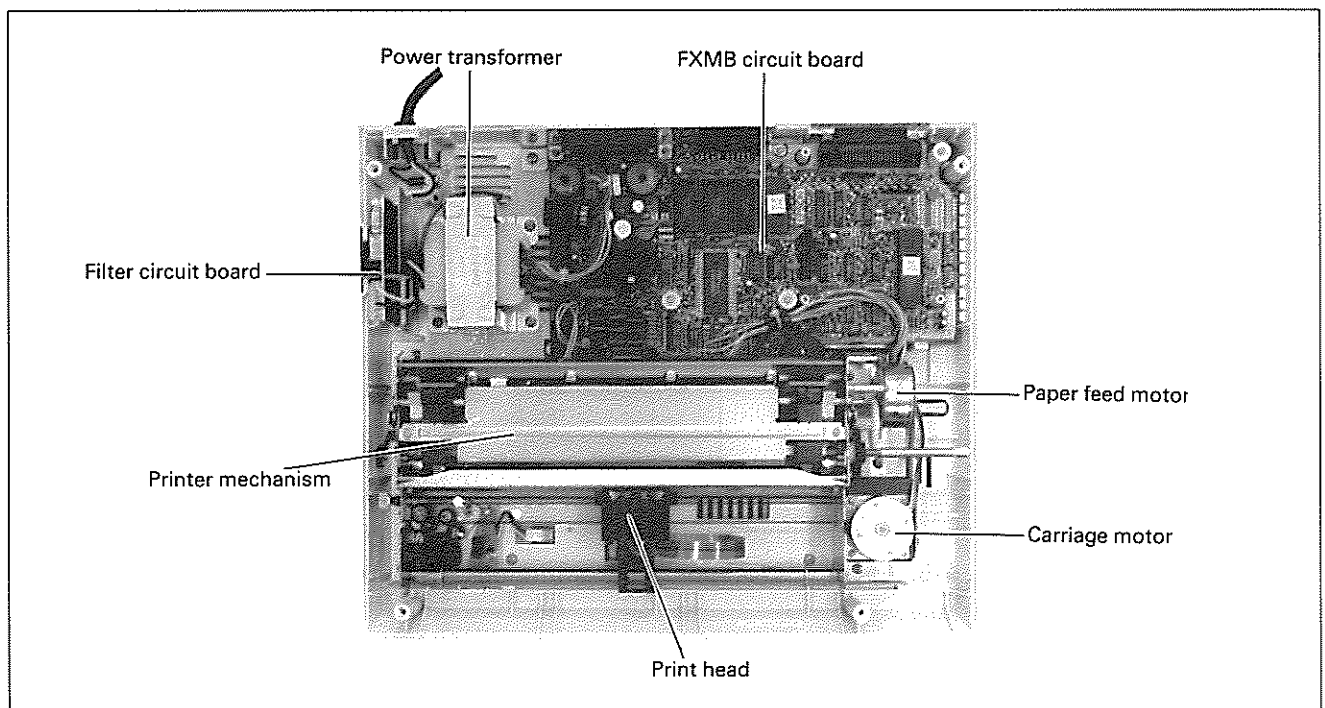

Fig. 4-4. Layout of Respective Components. (FX-80+)
Step 5: Remove the upper case. (See Figs. 4-4 to 4-7 for component configuration.)